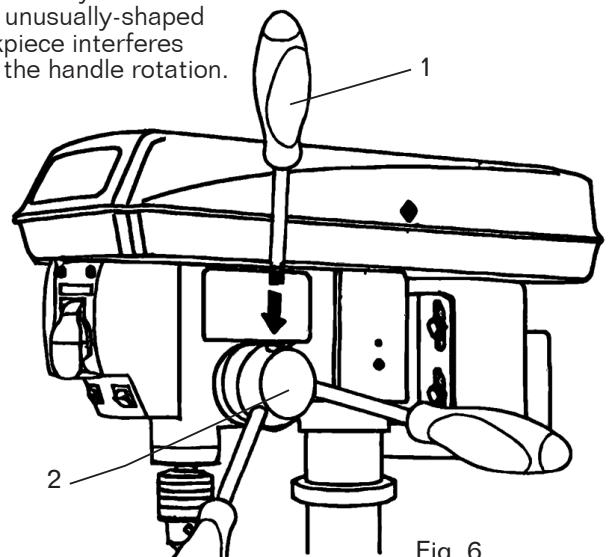

Fig. 6
### FEED HANDLES (FIG. 6)
1. Insert the three feed handles (Fig. 6 - 1) into the threaded openings on the feed hub (Fig. 6 - 2).